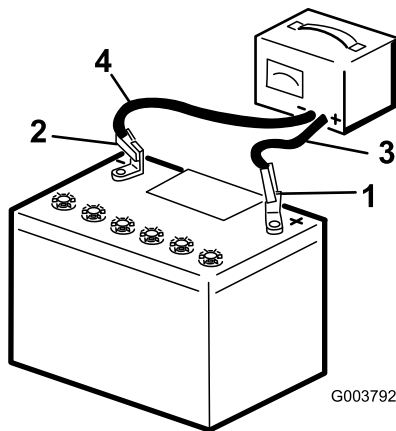

Figure 38
2. Charge the battery for 4 to 8 hours at a rate of 3 to 4 A (Figure 38). Do not overcharge the battery.
3. When the battery is fully charged, unplug the charger from the electrical outlet, then disconnect the charger leads from the battery posts (Figure 38).